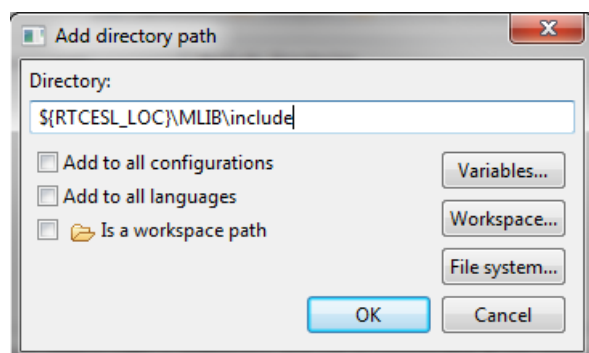

Figure 1-21. Library include path addition
16. Click the Add... button on the right, and a dialog appears. See Figure 1-21.